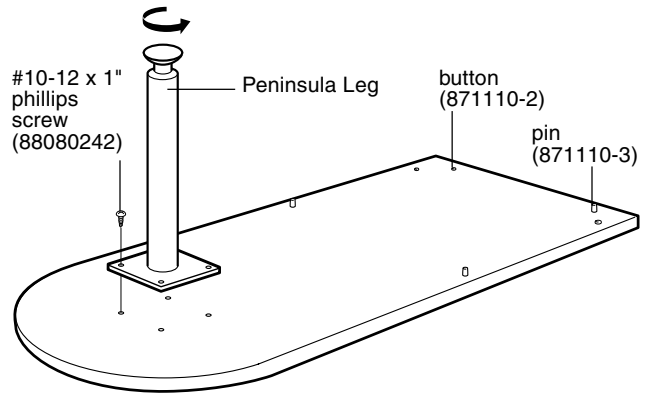

Figure 1
1. Lay surface upside down. Align Peninsula Leg with the predrilled holes at round end in surface bottom and attach with four (4) #10-12 x 1-1/4" phillips screws provides. Adjust leg height accordingly. (Figure 1)